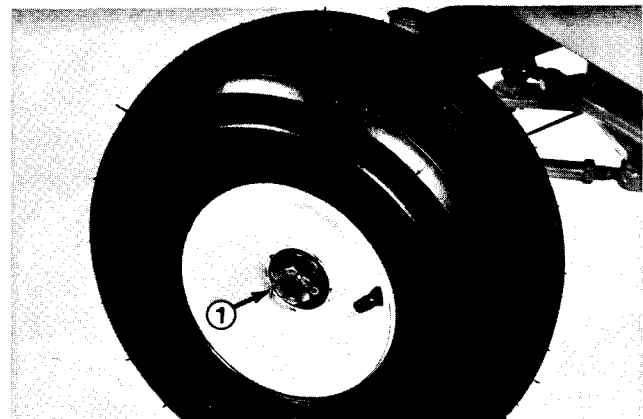

Figure 2
3. Remove the cotter pin, slotted nut, and washer. Slide the wheel off spindle shaft (Fig. 2).
9. Slide the wheel onto the spindle shaft and secure it in place with the flatwasher and slotted nut (Fig. 2). DO NOT tighten the nut or install the cotter pin.